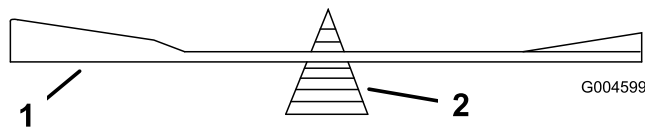

Figure 38
2. Check the balance of the blade by putting it on a blade balancer (Figure 38). If the blade stays in a horizontal position, the blade is balanced and can be used. If the blade is not balanced, file some metal off of the back side of the blade. Repeat this step until the blade is balanced.